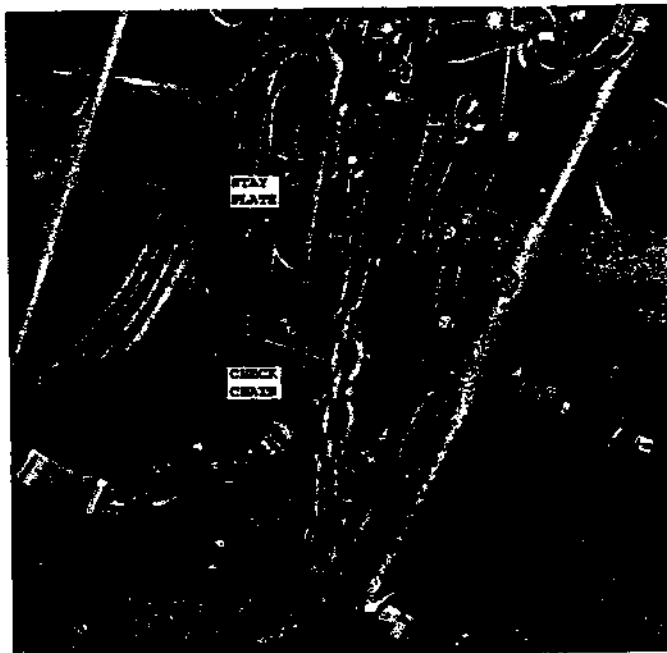

Fig. 16 — Lower Links Held in Transport — MF 135 — MF 180 Tractors
2. a. Lock lower links in transport position with the right check chain and stay plate as shown in Fig. 16. This allows the swinging drawbar (if equipped) to be used for pull-type implements.